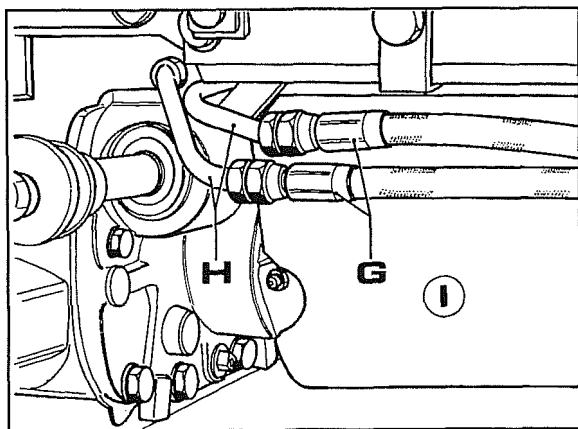

Fig. 16
16. Disconnect the two pipes **G** Fig. 16. Put plugs in the ends of both pipes **H** to prevent oil leaking out whenever the front wheels turn.